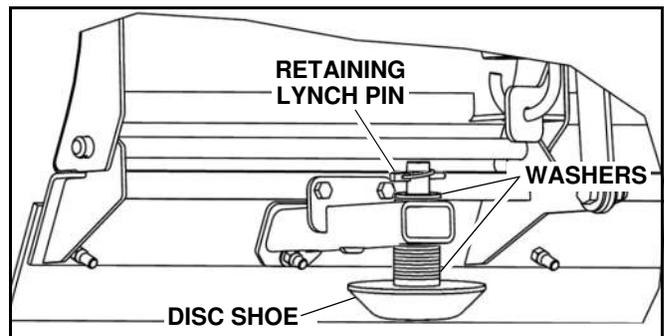

Figure 2
5. Install shoe with washers through disc shoe bracket. Add washers and retaining lynch pin to secure (See Figure 2).